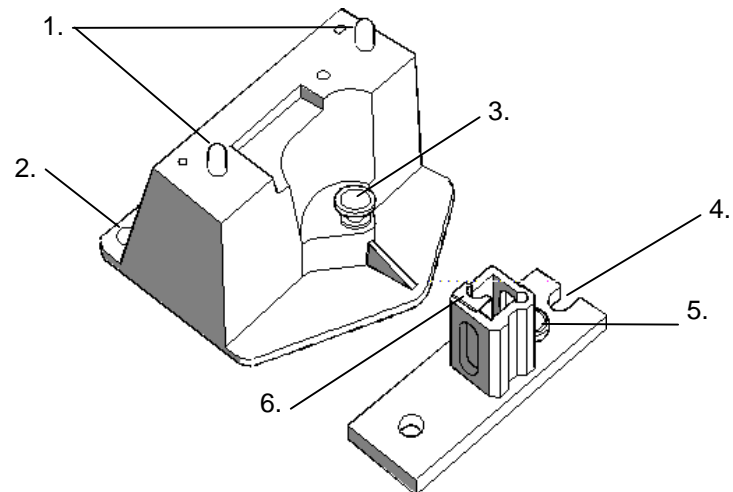

Figure 2-2 Cell holder base (left) and Single Cell Holder
The cell holder base and Single Cell Holder are shipped installed in the sample compartment of the Cary 50. To remove the Single Cell Holder loosen thumbscrew (item 4 in Figure 2-2) and lift the Single Cell Holder off the cell holder base. To remove the cell holder base loosen its thumbscrew (item 2 in Figure 2-2) and remove the cell holder base from the sample compartment. Alternatively you can leave the Single Cell Holder on the cell holder base and remove them from the sample compartment as one item. Simply undo the thumbscrew on the cell holder base and remove the base and cell holder assembly from the instrument.
Refer to Figure 2-2 when installing the Single Cell Holder.
3. Hold the Single Cell Holder so the notched section is to the right and place it on the cell holder base, aligning the holes in the Single Cell Holder over the locating pins on the cell holder base (see Figure 2-2).